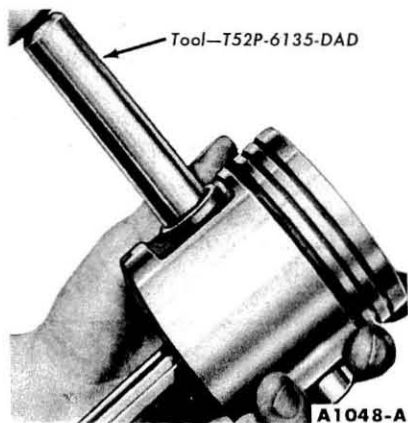

FIG. 21—Piston Pin Removal
2. Remove the piston rings. Remove the piston pin retainers. Drive the piston pin out of the piston and rod (Fig 21). Discard the retainers.